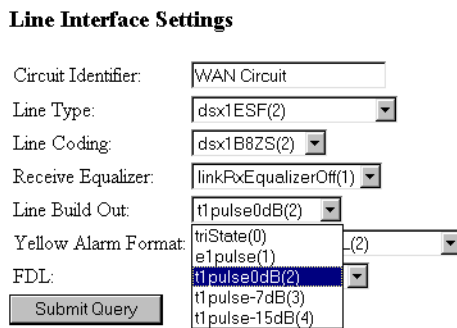

Figure 46. Line Build Out pull-down menu with t1pulse0dB(1) selected
- From the *Line Build Out* pull-down menu (figure 46) select *t1pulse0dB(1)*.